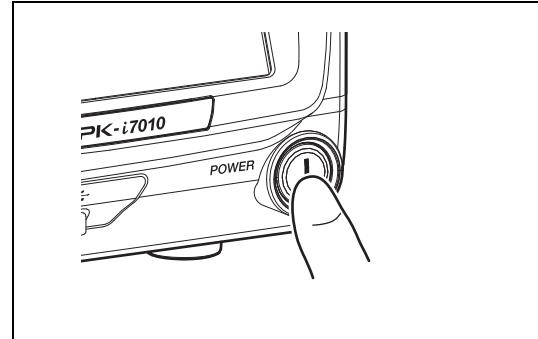

Figure 5.1
### 1 Press ① on the front of the processor. (Refer to Figure 5.1.)